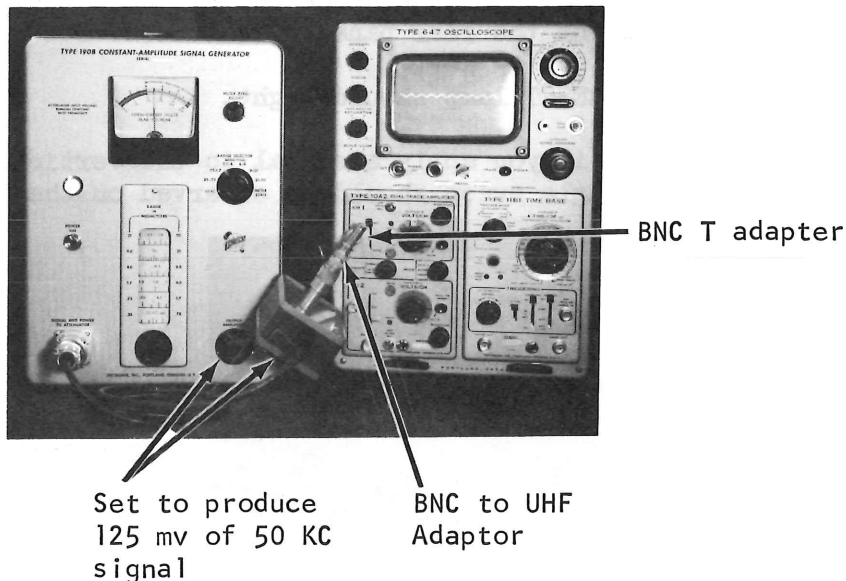

Figure 10A
2. Connect the 190 A or B constant amplitude sine wave generator to the vertical input. Terminate the generator with a  $50\Omega$  terminator, and use a UHF to BNC adapter (190B with new ATTEN does not require an extra  $50\Omega$  terminator). For the next few steps a BNC T adapter is required and this can also be installed at this time. See Figure 10A.
3. Set the 190 A or B for a 125 millivolt peak-to-peak output at 50 kc. See Figure 10A.